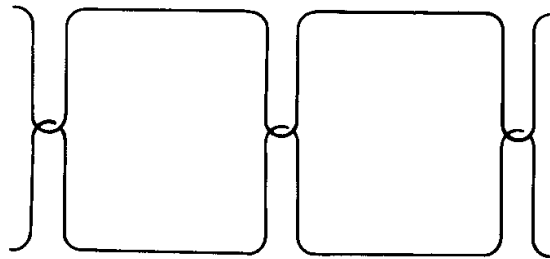

FIGURE 1 - STITCH TYPE 301
- 5.1.4 All stitching of fireblocking material, or stitching of fastening tapes or labels to fireblocking material, must use stitch type 301 according to Federal Standard 751 with 8 - 10 stitches per inch (see Figure 1).